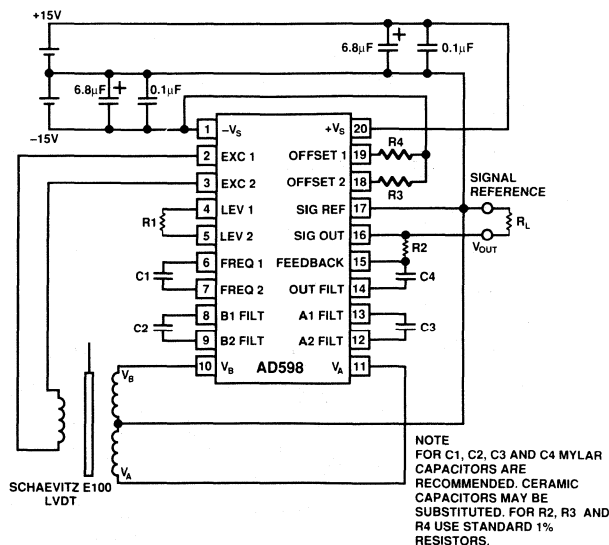
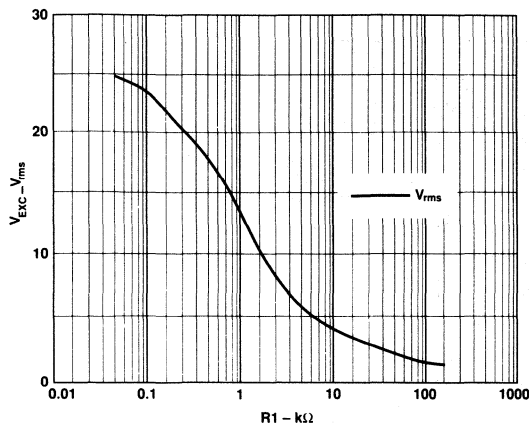
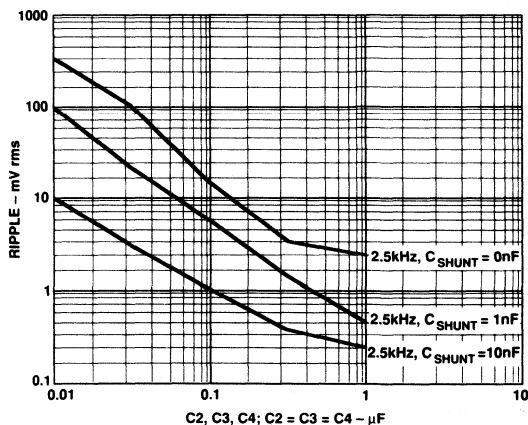

Figure 7. Interconnection Diagram for Dual Supply Operation
Figure 8. Excitation Voltage  $V_{EXC}$  vs.  $R1$
Figure 16. Output Voltage Ripple vs. Filter Capacitance
- 1 $V_A$  and  $V_B$  represent the Mean Average Deviation (MAD) of the detected sine waves. Note that for this Transfer Function to linearly represent positive displacement, the sum of  $V_A$  and  $V_B$  of the LVDT must remain constant with stroke length. See "Theory of Operation." Also see Figures 7 and 12 for R2.
- 8R1 is shown in Figures 7 and 12.
The AD598 can easily be connected for dual or single supply operation as shown in Figures 7 and 12. The following general design procedures demonstrate how external component values are selected and can be used for any LVDT which meets AD598 input/output criteria.
Figure 7 shows the connection method with dual  $\pm 15$  volt power supplies and a Schaevitz E100 LVDT. This design procedure can be used to select component values for other LVDTs as well. The procedure is outlined in Steps 1 through 10 as follows:
6. Referring to Figure 7, for  $V_S = \pm 15$  V, select the value of the amplitude determining component R1 as shown by the curve in Figure 8.
$V_{OUT}$  is measured with respect to the signal reference, Pin 17 shown in Figure 7.
C4, from Figure 7, are all equal and designated as a parameter in the figures. The response is approximately that of two real poles. However, there is appreciable excess phase at higher frequencies. An additional pole of filtering can be introduced with a shunt capacitor across R2, (see Figure 7); this will also increase phase lag.
When selecting values of C2, C3 and C4 to set the bandwidth of the system, a trade-off is involved. There is ripple on the "dc" position output voltage, and the magnitude is determined by the filter capacitors. Generally, smaller capacitors will give higher system bandwidth and larger ripple. Figures 16 and 17 show the magnitude of ripple as a function of C2, C3 and C4, again all equal in value. Note also a shunt capacitor across R2 shown as a parameter (see Figure 7). The value of R2 used was 81 kΩ with a Schaevitz E100 LVDT.